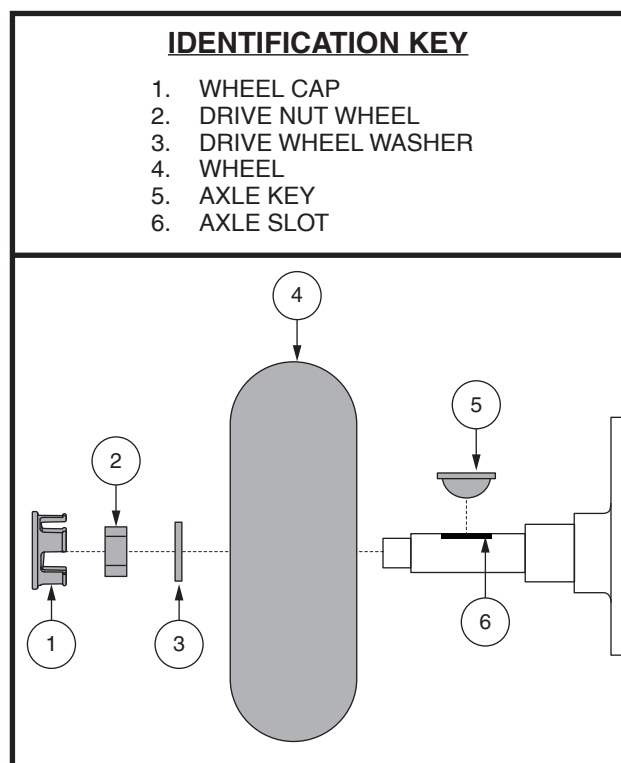

Figure 31. Wheel Removal
3. Remove the wheel cap, drive wheel nut and washer from the axle. **See figure 31.**
4. Remove the drive wheel nut and washer from the axle. **See figure 31.**
9. Slide the wheel back onto the axle. Make sure that the axle key is in the axle slot. **See figure 31.**